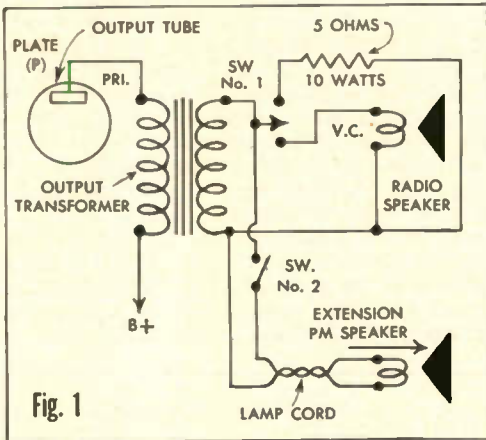

Fig. 1
Permanent-magnet (PM) type speakers are ideal for this purpose. They are self-powered and are available in all standard sizes from radio parts houses. As the voice coil of a PM speaker has a low impedance, it may be connected without the use of blocking condensers, as shown in Fig. 1. When the single-pole, single-throw toggle switch (Sw. No. 1) is thrown "down" the radio speaker will be in operation. When the switch is thrown "up" the set speaker is dead. Switch No. 2 cuts in the extra speaker, which may be located at any remote point such as in a bedroom, kitchen or in the basement recreation room.